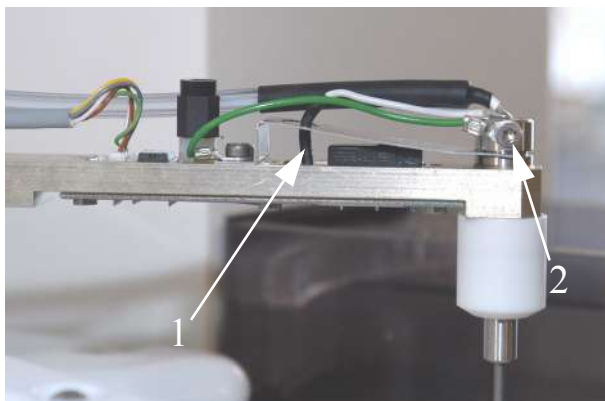

Fig. 9-22: Sample needle dismantling
Disconnect the white wire (1) and loosen the screw (2) to release the needle (see Fig. 9-22: Sample needle dismantling, page 9-20). Then, remove the sample needle.